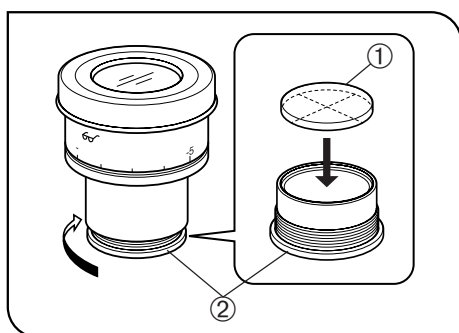

Fig. 14
5 Mounting the Eyepiece Micrometer Disk (Fig. 14)
(Fig. 14)
Following Fig. 14, turn the built-in micrometer-mounting frame ② to the arrow direction to remove it from the eyepiece and place a micrometer disk ① into the mounting frame so that the surface with the model indication faces downward.